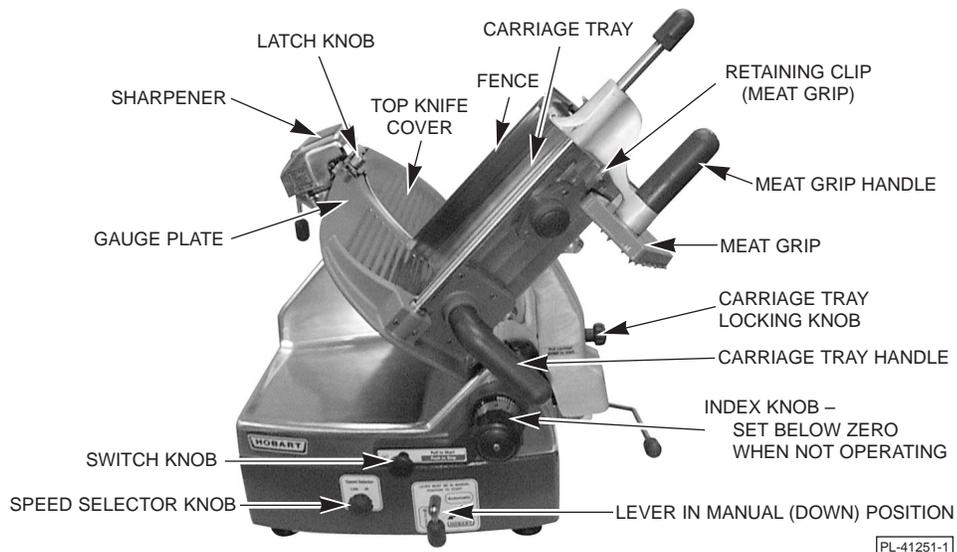

Fig. 3
With the Gauge Plate fully closed, pull the Carriage all the way toward you until it reaches its stop. With the Meat Grip out of the way, place the product to be sliced on the Carriage Tray. Adjust the fence, if equipped, by loosening the thumb screw and sliding the fence so that it is close to the product but not pushing against it. Tighten the thumb screw. Set the Meat Grip against the product. Always make sure the Lever (Fig. 3) is in the Manual position (down) before starting the slicer. Turn the slicer on by pulling the Switch Knob (Fig. 3) forward until it starts and then releasing it.
If the Meat Grip is not needed, it may be stored out of the way by sliding it to the top of its travel, rotating it under the Carriage Tray, and allowing it to rest in the Retaining Clip (Fig. 3).
Adjust the gauge plate by turning the Index Knob (Fig. 3) to obtain the desired slice thickness. The numbers on the Index Knob do not indicate actual measurements but may be used for reference to duplicate slice thickness.
Use the Carriage Tray Handle (Fig. 3) to push the Carriage back and forth to slice manually.
**To operate the slicer in Automatic mode . . .** Rotate the Speed Selector Knob (Fig. 3) to the desired speed; make sure the Carriage is in HOME position (all the way forward); make sure the Lever (Fig. 3) is on the Manual position (pointing down); turn the slicer on; start the carriage drive unit by rotating the Lever to the Automatic position (up and to the right).